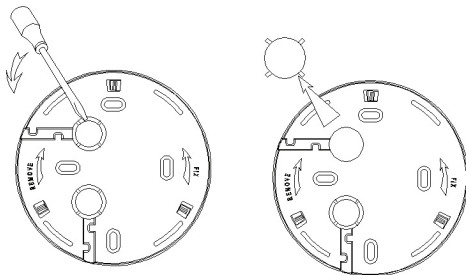

Fig. 5.
2. Use a screwdriver to punch out the appropriate opening. See Fig. 5.